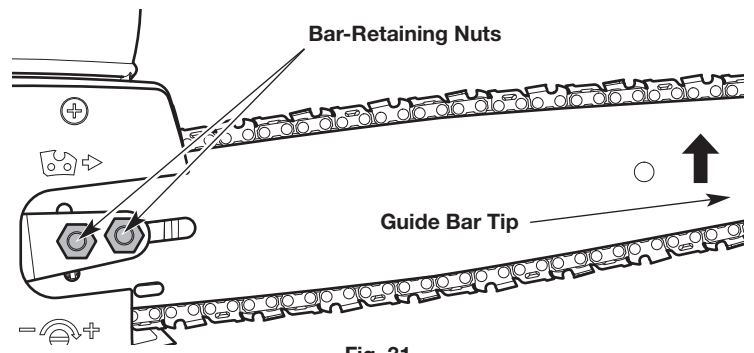

Fig. 31
1. Use a 7/16 inch (11 mm) wrench to slightly loosen the bar-retaining nuts (Fig. 31). **DO NOT** remove the bar-retaining nuts.